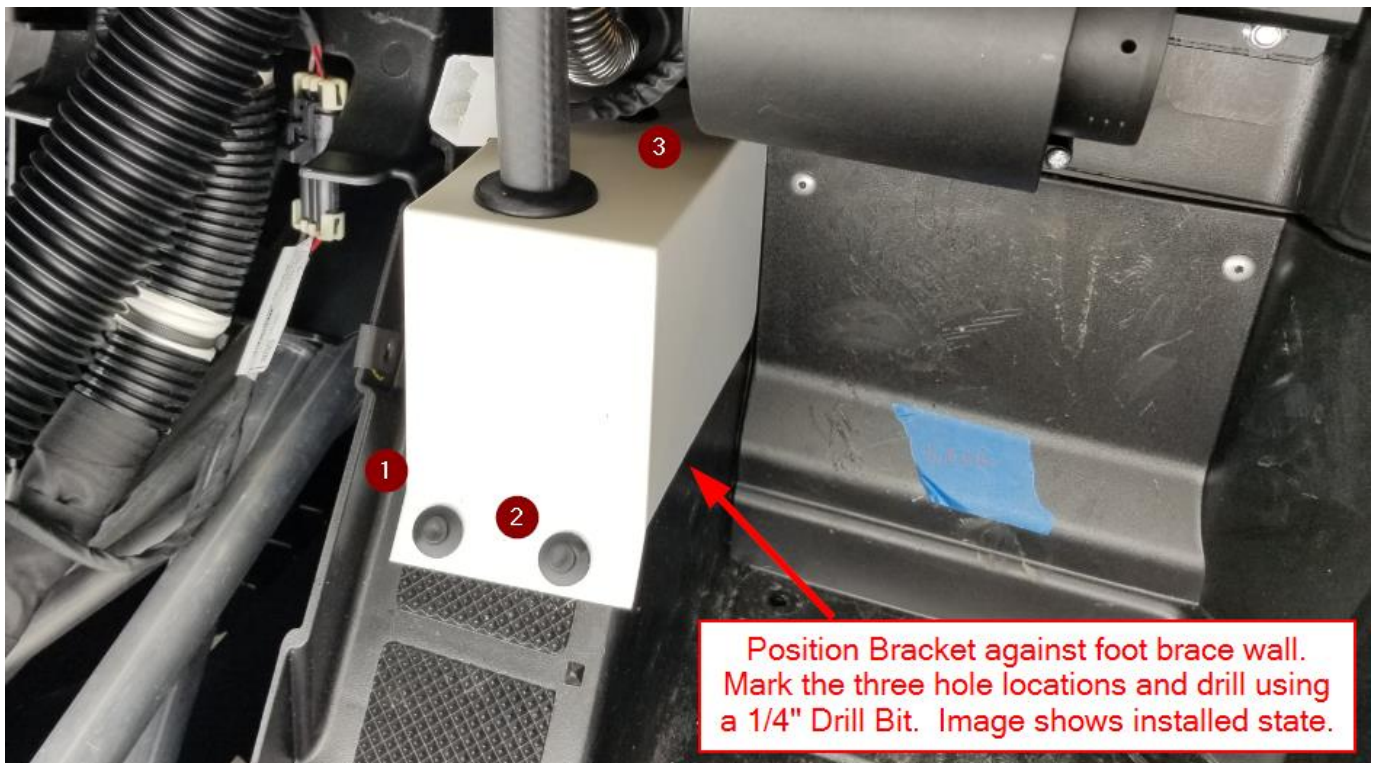

Figure 8
- h. Position the Lower Heater Hose Bracket as shown in Figure 8. Press the bracket against the vertical side wall and angled face of the passenger foot brace. Mark the three hole locations. Drill three 1/4" Holes.